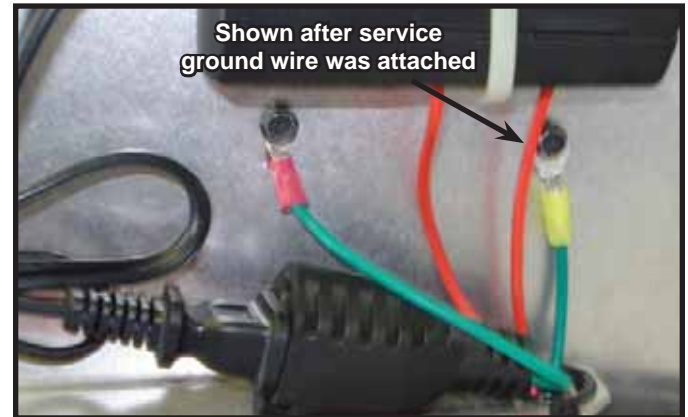

Figure 10.2
5. Connect the neutral (White) service wire to the yellow female insulated connector located on transformer terminal (1) using a wire crimping tool.
6. Connect the ground (Green) wire to the 1/4 in. ground screw located on the front right of the transformer bracket. See Figure 10.2.